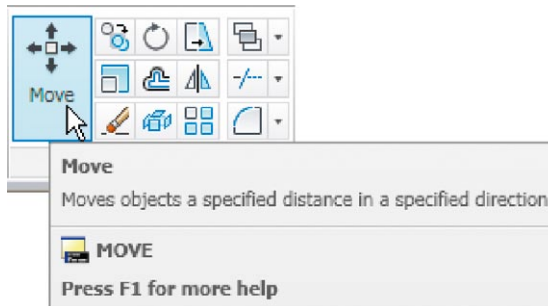

Fig. 5.24 The **Move** tool from the **Home/Modify** panel
2. Call **Move** – *click* the **Move** tool icon in the **Home/Modify** panel (Fig. 5.24), *pick* **Move** from the **Modify** drop-down menu or *enter* **m** or **move** at the command line, which shows: